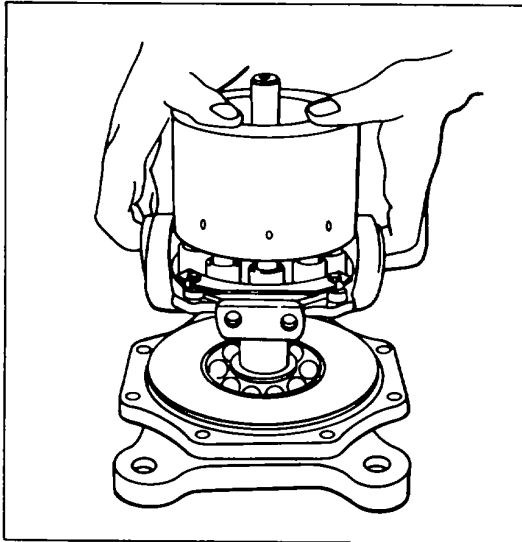
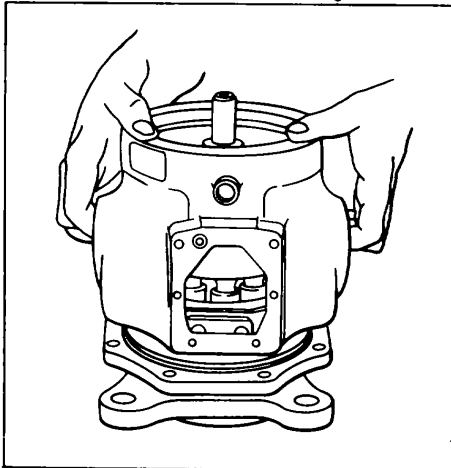

Figure 143.
Figure 144.
18. Lower rotating group consisting of cam, pistons and block assembly over pump shaft (1) and on to mounting flange (2) See Fig. 143) Rotate cam assembly (12) to accept trunnions 17) through holes in the housing 18).
19. Install new O-ring a31 on mounting flange (2). Lower housing 18) carefully over rotating group
and on to flange (2) being carefull not to disturb the assembled, internal parts. See Fig. 144. Install hex nuts (3) and lock washers (4) and torque to 450 in. lbs.